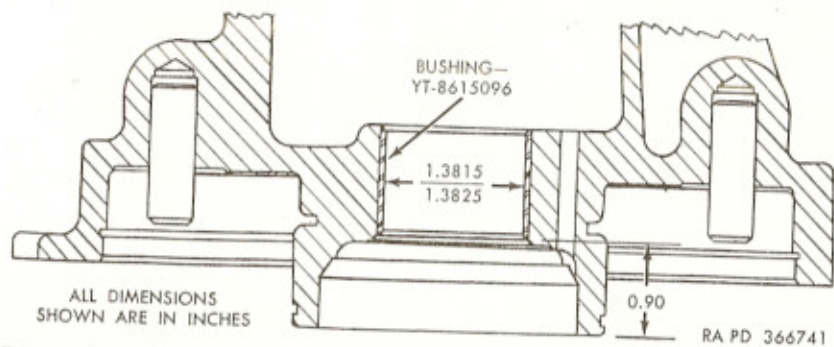

Figure 142. Sectional view of output shaft bearing retainer and bushing.
- (8) Output shaft bearing retainer assembly (AA).
- (g) Inspect output shaft bushing in bearing retainer for wear (fig. 142) or damage. If bushing is worn or damaged, press old bushing out of retainer, press new bushing into place, and finish to dimension shown in figure 142.